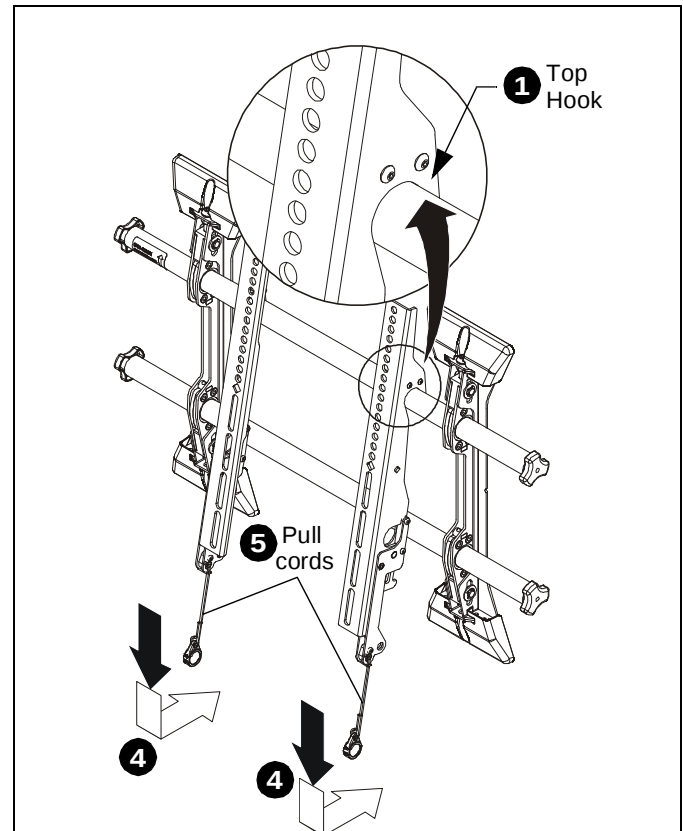

Figure 15
1. Hang screen by hanging top hook of interface brackets onto the top rail of the mount (X). (See Figure 15)
4. Pull downward on the pull cords and swing inward toward wall, latching interface brackets to lower rail and fastening bottom of screen to the mount. (See Figure 15)
5. Attach end of pull cord (a magnet) to mount so it does not extend beyond bottom of screen. (See Figure 15)